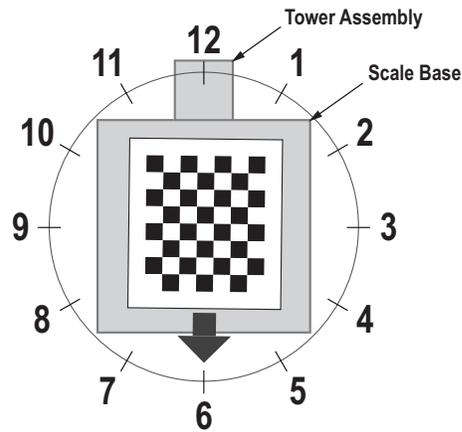

Figure 7-8. Rotate to 6 o'clock
- Align calibration object so the cross hairs are centered. Rotate the calibration object to 6 o'clock with the tower assembly being at 12 o'clock (Figure 7-8).